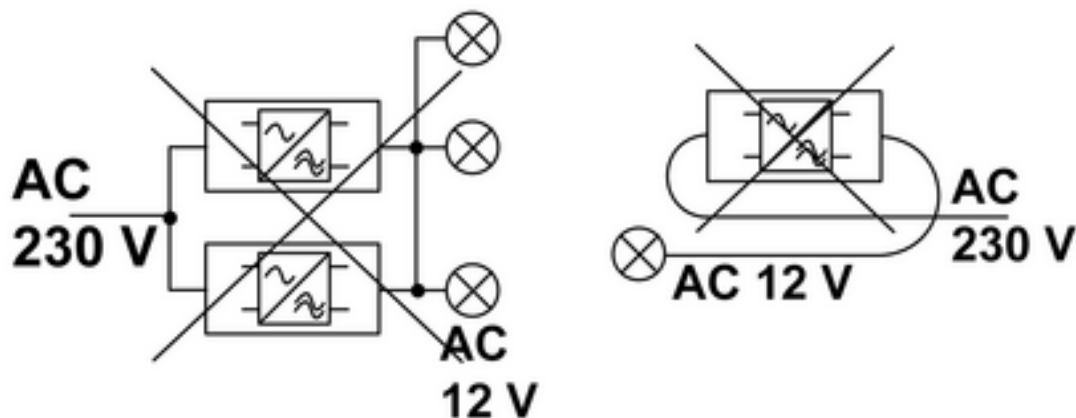

Figure 2
- ❏ Do not connect secondary cable with additional transformers (Figure 2).
- ❏ Do not lay secondary cable parallel to mains cable or transformer (Figure 2).